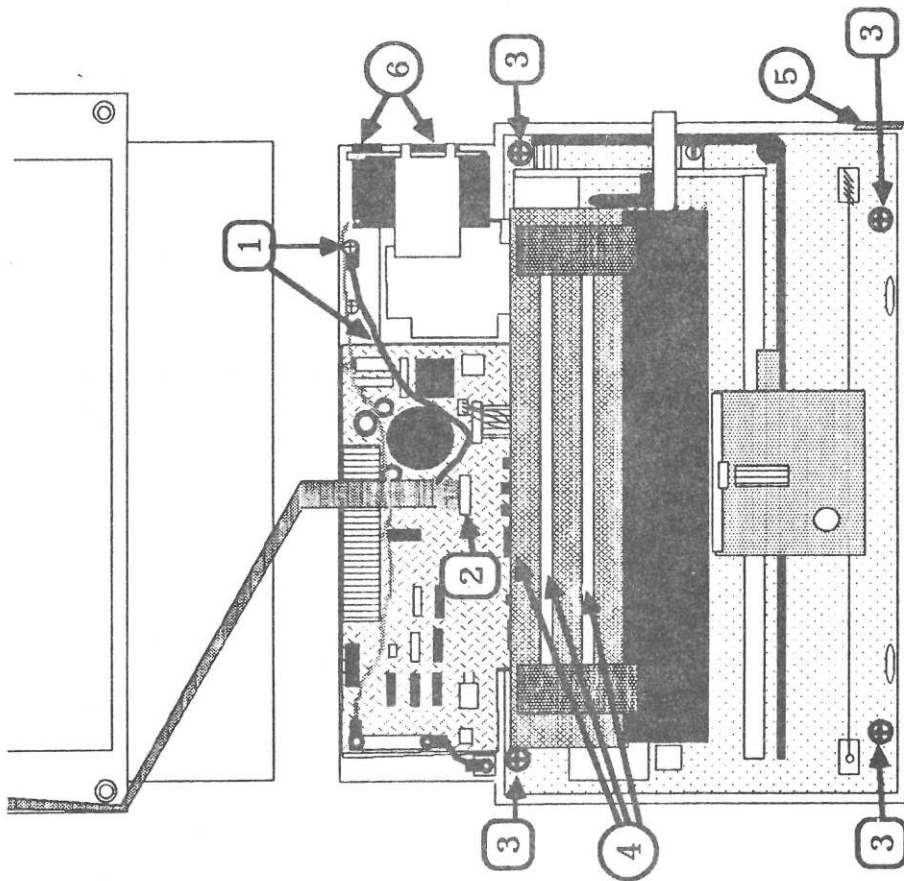

Figure 4
- f) Locate the ground wire that connects the ribbon cable to the rear of the chassis (Figure 4, #1). Free it from the chassis by removing the screw. **IMPORTANT:** Keep this screw with the ground wire. It is longer than the other chassis screws.
- g) Disconnect the ribbon cable from the logic board **by pulling on the connector, not on the cable.** (See Figure 4, #2.)
7. Remove the four baseplate screws (Figure 4, #3).
- a) Push the little grey cable-clamp out of the way (Figure 4, #5).
- b) Grasp the assembly by the two metal rods and the back plate (Figure 4, #4) and lift it up, right side first, out of the case. (You may have to free the AC fuse holder and the power cord socket (Figure 4, #6) by prying outward on the case with a screwdriver or fingers as you begin lifting.)